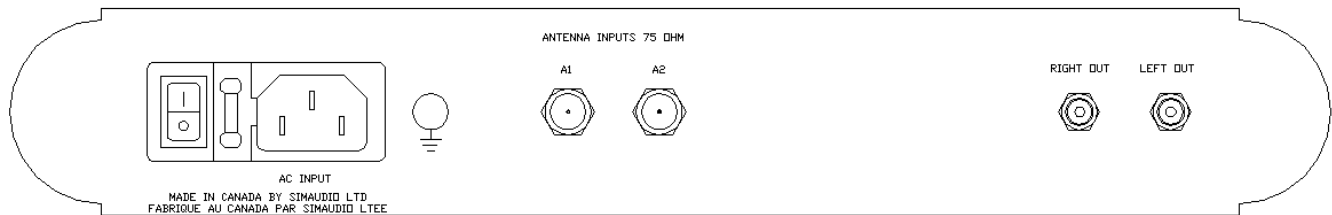

Figure 2: Rear panel of MOON AIR Analog FM Tuner
The rear panel will look similar to Figure 2 (above). On the far left side is the AC mains power switch. Beside it is the IEC type AC receptacle. Towards the center of the rear panel are two (2) female F-type connectors for antenna inputs, labeled "A1" and "A2". On the far right side is one (1) pair of single-ended RCA output connectors labeled 'Left Out' and 'Right Out' that are intended as an input to either a preamplifier or integrated amplifier. Don't hesitate to use high quality interconnect cables. Poor quality interconnect cables can degrade the overall sonic performance of your system.